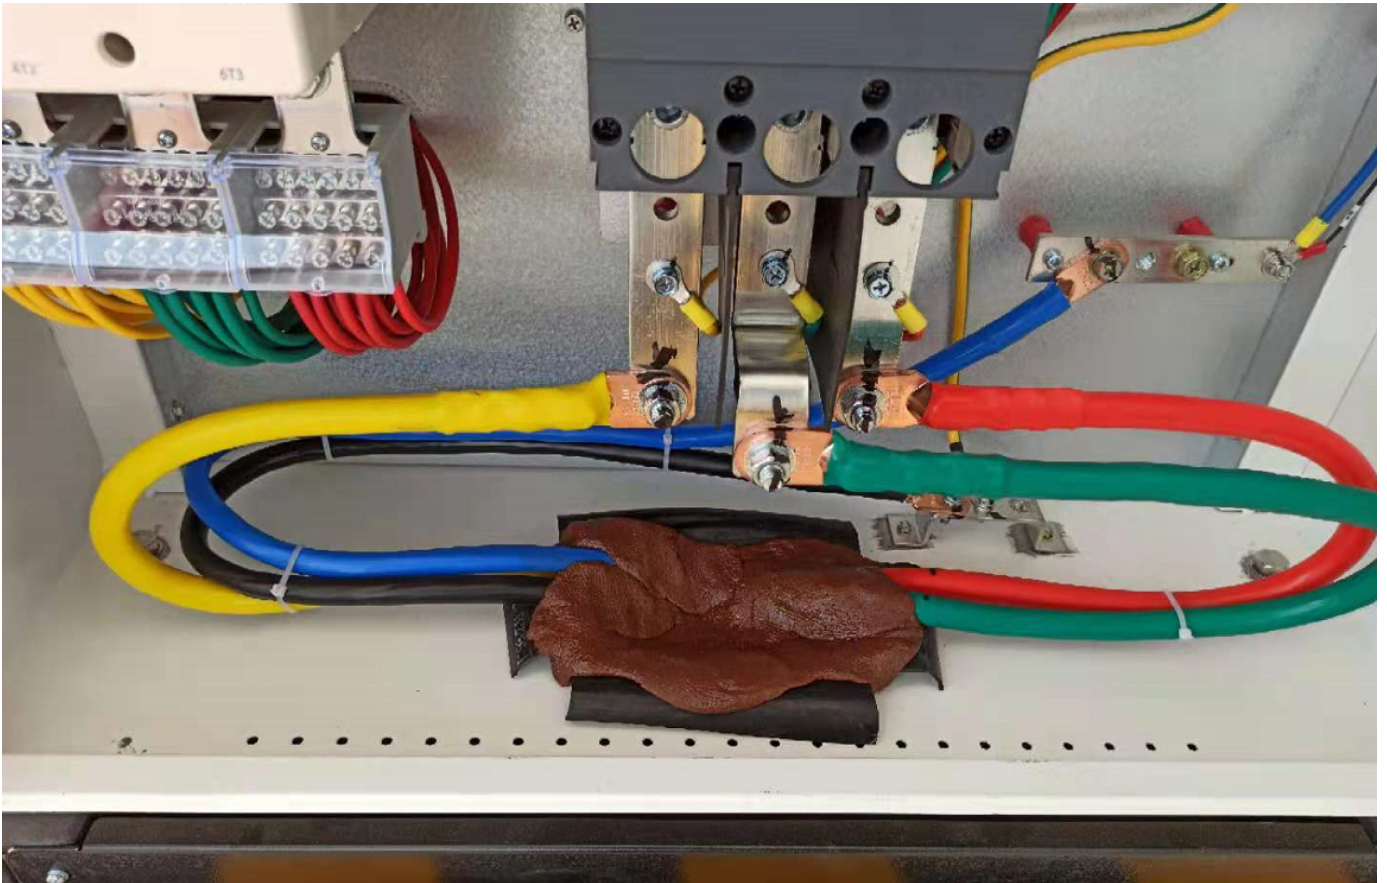

Figure 7.2.2-A Requirements for access cables and sealing mud
- 5) Connect the power distribution cable, see Figure 7.2.2-A below for details
- 6) Seal the cable inlet hole with sealing mud, see Figure 7.2.2-A below for details